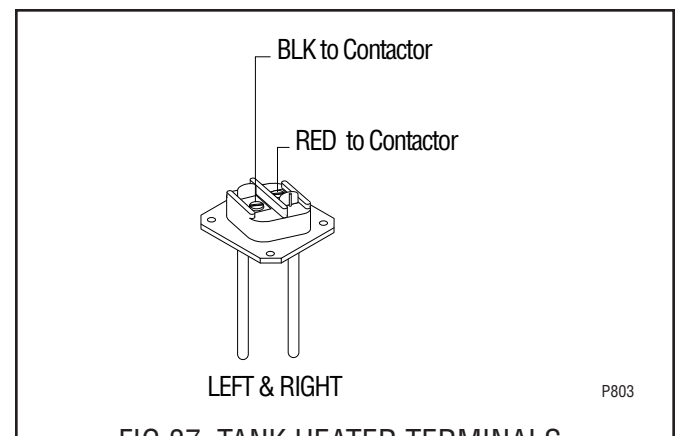

FIG. 37. TANK HEATER TERMINALS
5. Refer to Fig. 37 when reconnecting the wires.